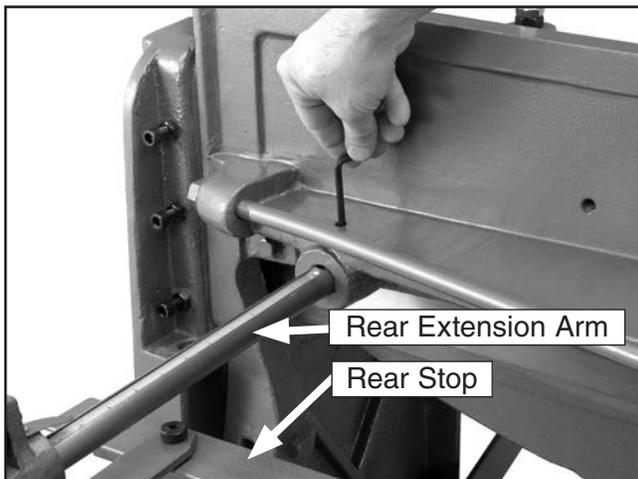

Figure 10. Installing rear extension arm.
4. When complete, the finished assembly should look like **Figure 10**.